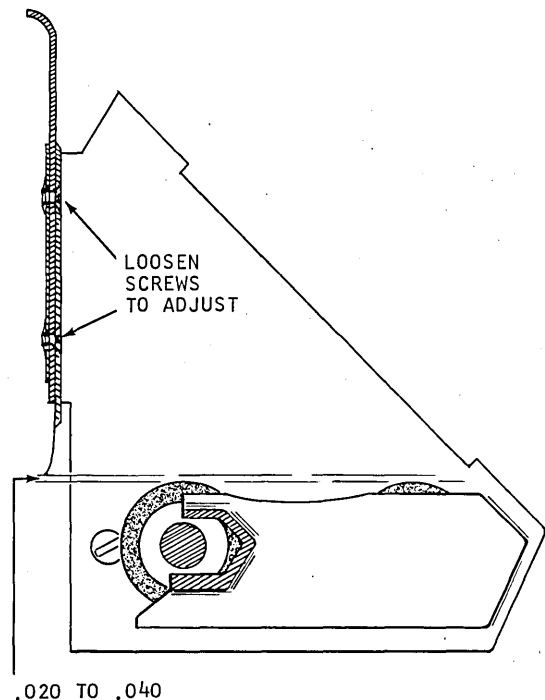

Figure 2-9. File Feed Adjustments
6. The lower magazine throat should be .020" to .040" above the imaginary plane determined by the tops of the feed rolls (Figure 2-9).